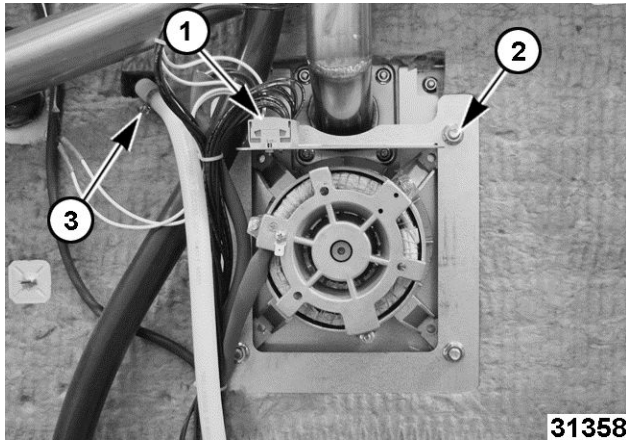

Fig. 86
3. Remove humidity hose clamp (3, Fig. 86).
4. Note and disconnect motor wires (1, Fig. 86).
5. Remove nuts, shroud and spacers if they exist (2, Fig. 86).